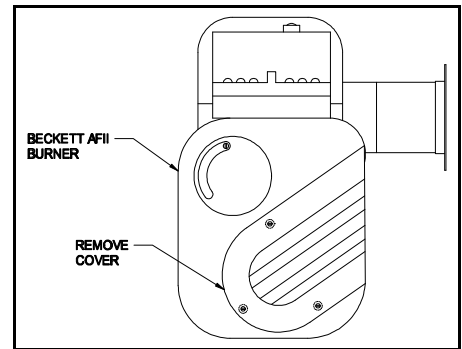

Figure 1
1. Remove burner inlet cover. (See Figure 1)